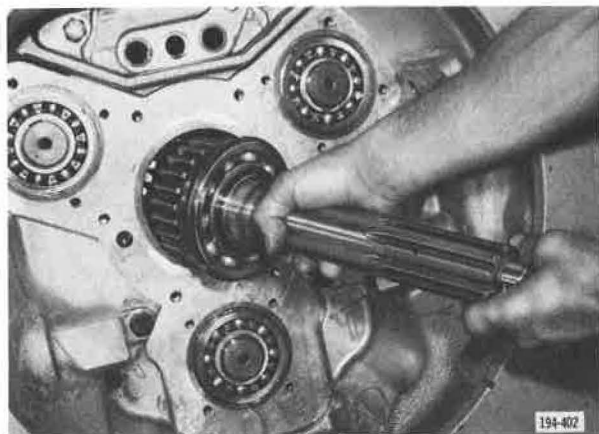

Figure 5-267. Removing Main Drive Pinion
15. Remove main drive pinion assembly from front case. See Figure 5-267.